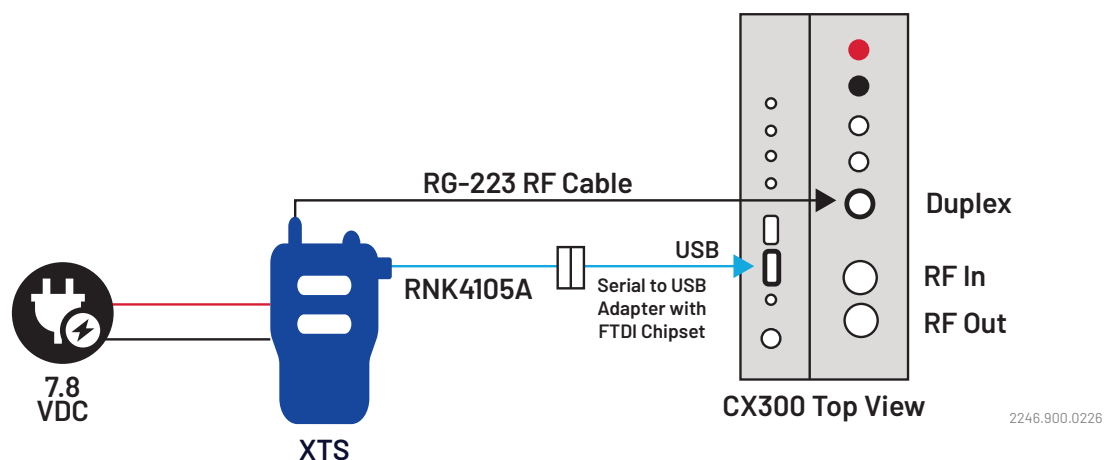

Figure 2. Portable with Serial to USB
2. Fig.2 is the connection information using Programming Cable: RKN4106A